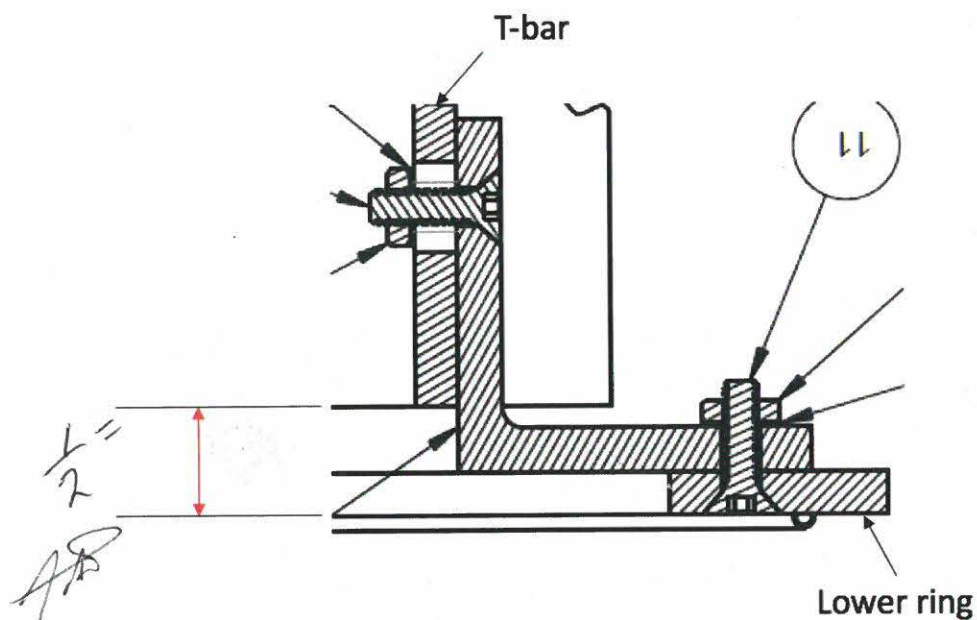

Figure 6-3 Installed T-bar to ring measurement
- After installation is complete, measure distance from the lower end of the T-bar to lower side of lower ring. Shown in red in Fig 6-3 below.